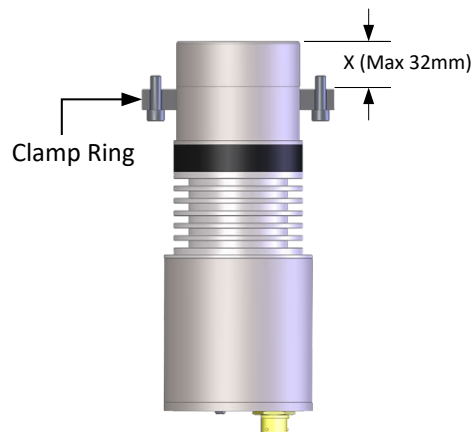

Figure 20: Positioning the Clamp Ring
3. Adjust the position of the Clamp Ring to match the required insertion depth (Figure 20)